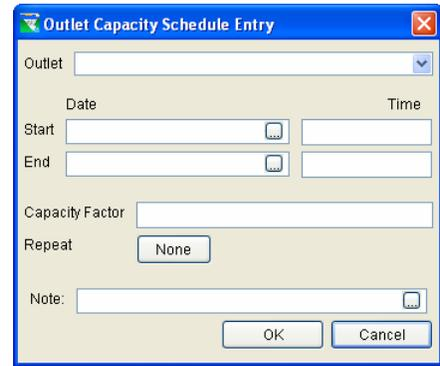
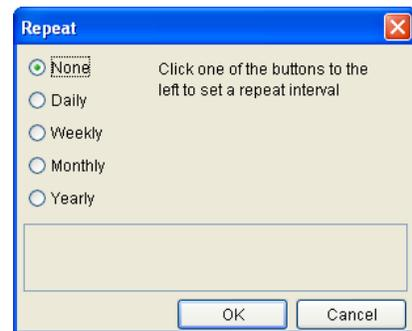

Figure 11.102 Outlet Capacity Schedule Entry Editor
Figure 11.103 Outlet Capacity Repeat Editor for Outage Schedule
-  Click on the **Add** button to open the **Outlet Capacity Schedule Entry** editor (Figure 11.102). From the **Outlet** list select the appropriate outlet that is scheduled for an outage. Enter the **Starting Date & Time** and the **Ending Date & Time** to indicate when the outage is scheduled to occur. Enter a **Capacity Factor** that represents the fractional portion of the outlet's capacity that is available for release. For example, if 75% of the outlet's capacity will be available during the outage, then enter a Capacity Factor of 0.75. The label on the Repeat button ("None" in Figure 11.102) reflects the frequency with which the outage is applied. Click on this button to open the **Repeat** editor (Figure 11.103). Enter an optional descriptive **Note** to describe the details of the outage.